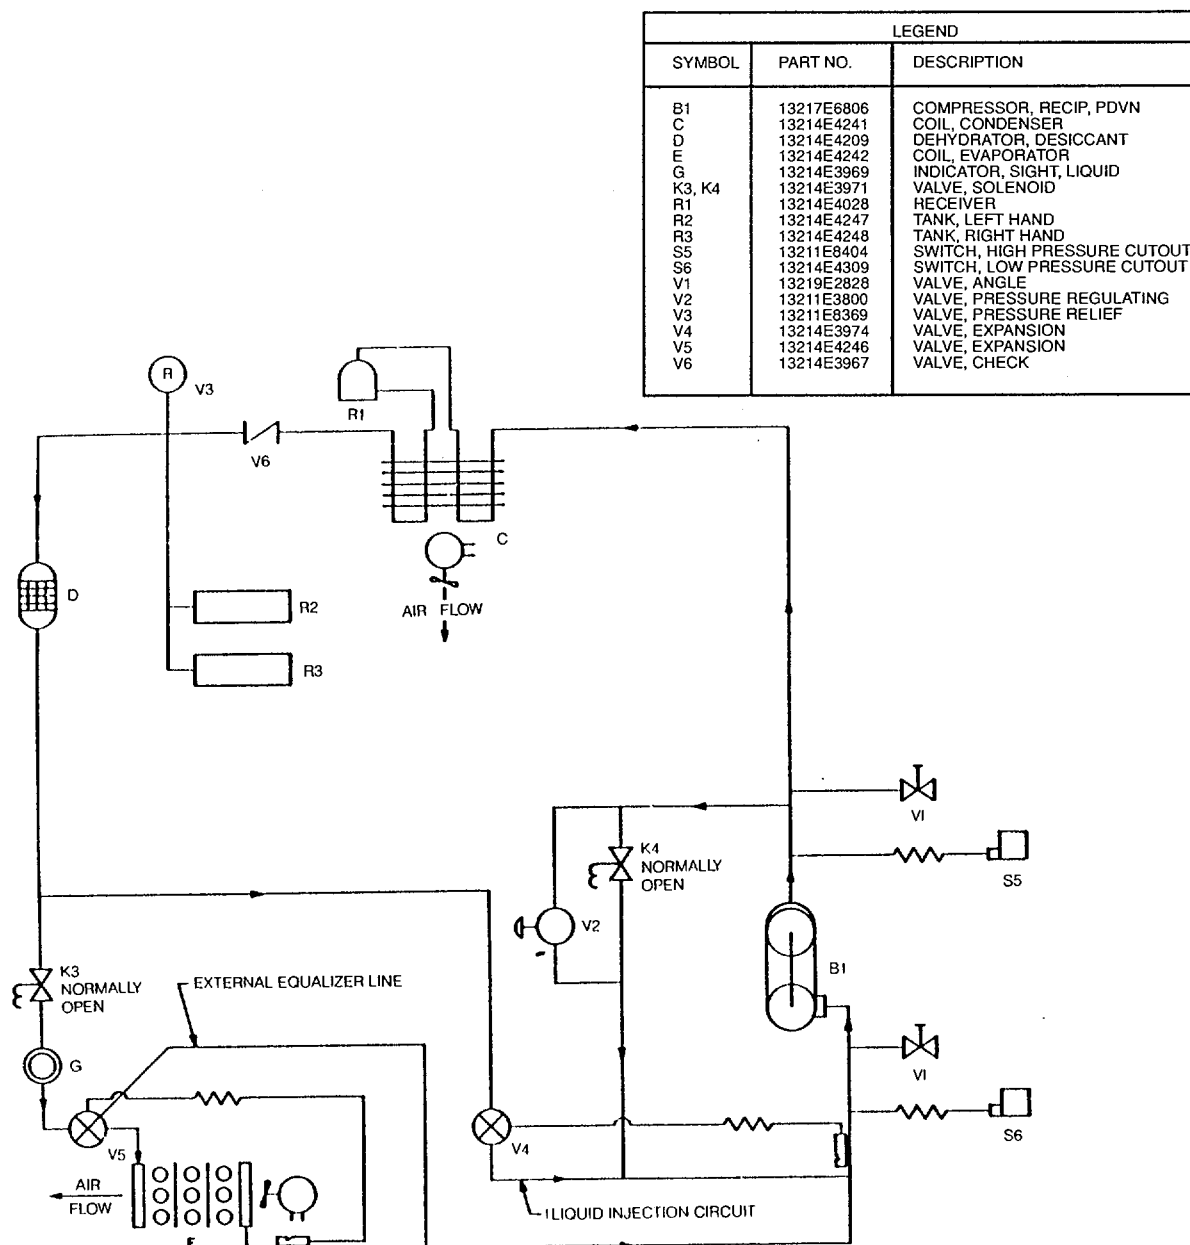

Figure 1-5. Refrigeration Diagram
**a. Cooling.** When the selector switch is set at COOL, and the temperature control thermostat is set at DECREASE, the air conditioner is in the cooling mode of operation. Liquid refrigerant is metered into the evaporator coil at the front face of the air conditioner through a thermostatic expansion valve (V5, Fig. 1-5). Warm room air forced around the finned tubs of the evaporator coil (E) causes the liquid refrigerant to vaporize and absorb heat from the air, thereby cooling the air. The vaporized refrigerant is then piped to the compressor (B1) where the gas increases in both temperature and density as it is compressed. The hot compressed gas is then piped to the condenser coil (C) where a flow of outside air is forced around finned tubs to remove the heat that has been absorbed during evaporation and compression. Removal of the heat causes the compressed gas to liquefy to a high temperature liquid. Excess refrigerant, not required by the evaporator, is stored in receiver tank (R1). The liquid refrigerant is returned to the expansion valve (V5) evaporator coil (E) through the check valve (V6) dehydrator (D), liquid line solenoid valve (K3) and liquid indicator (G). Here the cycle is repeated. Any liquid that is not immediately required for cooling is stored indefinitely in a pair of accumulator tanks (R2-R3) between the condenser and evaporator coils for use when the refrigerant pressure is too low for low temperature operation. Since the compressor runs continuously, it is necessary to prevent evaporator coil freeze up during the low heat load operation. The equivalent pressure for refrigerant 22 at 32° F (0° C) is approximately 58 psig (4.08 kg/cm2). With the low heat load on the evaporator (suction) pressure will reduce and as it approaches 58 psig (4.08 kg/cm2) the pressure regulating valve (V2) begins to open allowing hot gas from the discharge line of the compressor to bypass to the suction line thereby maintaining suction pressure and evaporator coil temperature above freezing point. To prevent the development of excessive heat in suction line which could overheat compressor motor, a second thermostatic expansion valve injects liquid refrigerant into suction line to cool gas to a safe operating temperature.
**b. Bypass-Cooling.** When the temperature of the air returning to the air conditioner is below set point of temperature control thermostat, the cooling is stopped even though the compressor continues to operate. To accomplish this, the liquid line solenoid valve (K3) which is a normally open valve, is energized by the temperature control and closes the valve stopping refrigerant flow to the evaporator coil (E). As the compressor continues to operate the suction pressure reduces to the point where the pressure regulating valve (V2) opens to create a bypass condition of refrigerant being pumped. As in the "low load" condition described in the cooling operation above, the repeated compression caused by this bypass increases temperature of the refrigerant vapor. To prevent the development of excessive heat in the suction line which would overheat and damage the compressor motor, the thermostatic expansion valve (V4) injects liquid refrigerant from the liquid line, ahead of liquid line solenoid valve (K3), into the suction line to cool the refrigerant vapor to a safe operating temperature for the compressor motor.